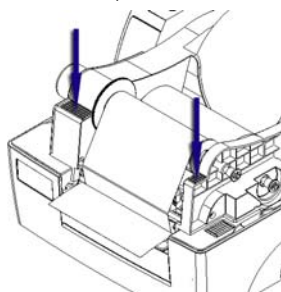

Figure 2.5.5
- 4) Press down the ribbon holder until it is locked, then close the top cover (see figure 2.5.5).